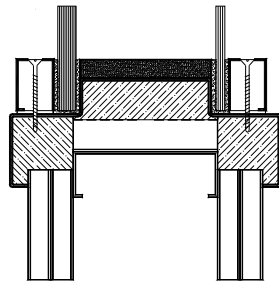

FIGURE 1
C. Installation In New Metal/Wood Stud Walls (Fig. 1 and 2). Using vertical wood braces for alignment and support and temporary wood spreaders at three points of the narrowest opening (width or height) to maintain the clear opening size, level and set the frame. Cross string the frame to ensure it is square and then anchor to the studs using the wall anchors provided. Floor anchors may also be provided for frames extending to the floor. Double king studs extending to the slab above are recommended and 16 Ga. minimum is recommended for metal studs. Double studs at the sill are also recommended